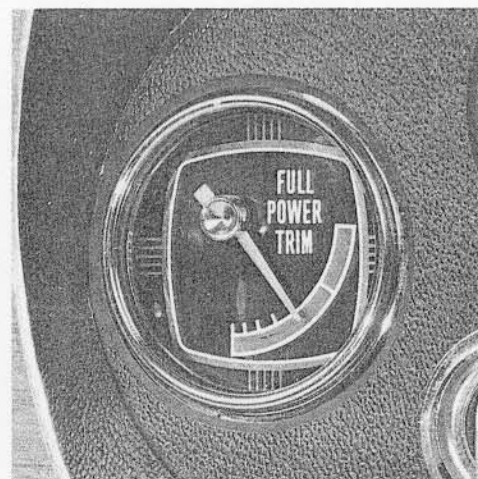

Figure 2. Trim Indicator Instrument
4. Rotate indicator sender housing in either direction to show indicator instrument needle on bottom of green arc. (Figure 2)